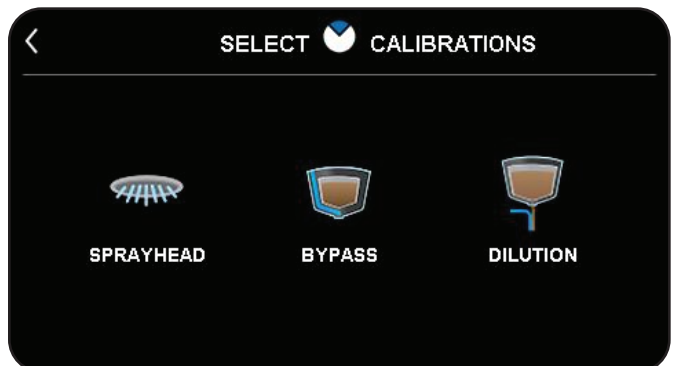

FIG. 38-4 ITCB
3. Infusion Series Coffee & Tea Brewer. (Fig. 38-4)